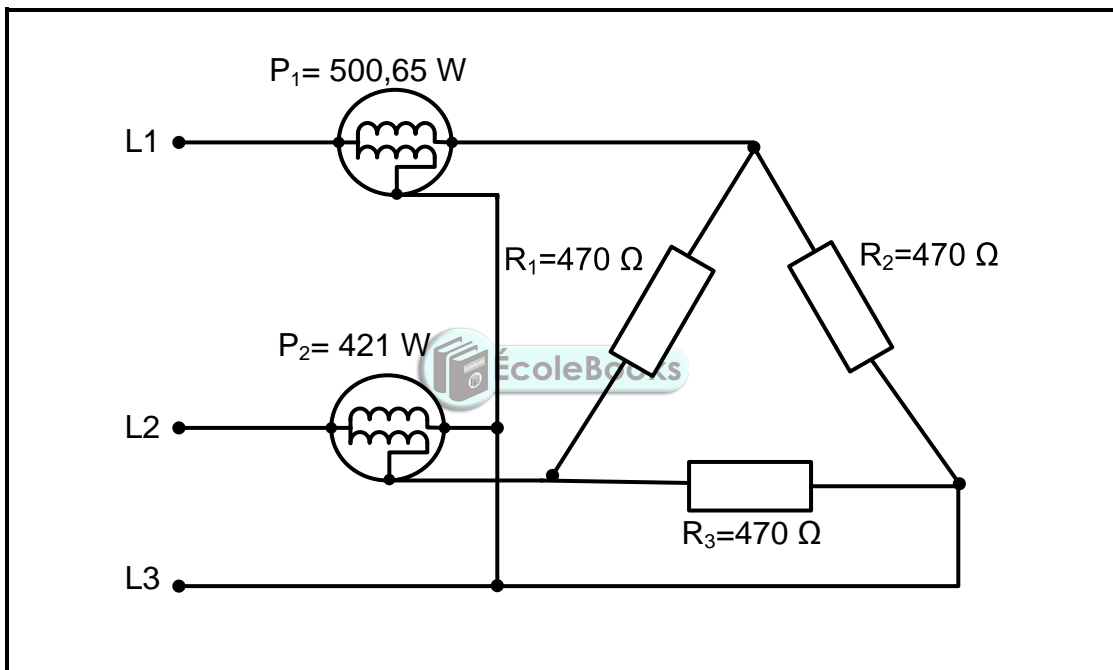

FIGURE 3.5
- 3.5 FIGURE 3.5 below shows two wattmeters connected to a balanced three-phase delta-connected load. The supply voltage is 380 V.